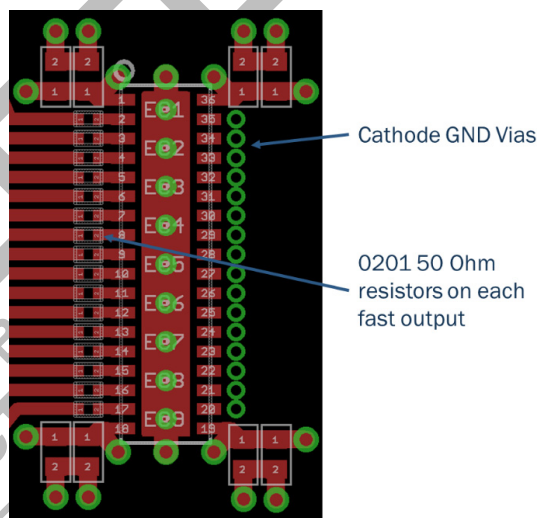

Figure 5.
- Use series termination resistors close to the fast output pins (pins 2 to 17) of the Array (see Figure 5)